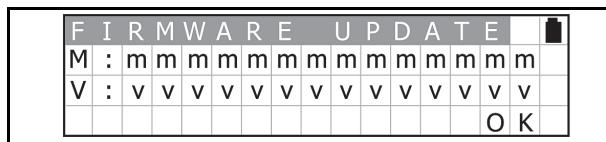

Figure 13 Download Waiting Screen
6. Press the OK Key  to begin the Software download (See Figure 13). Press the CLR Key  to return to the previous File Selection Screen.